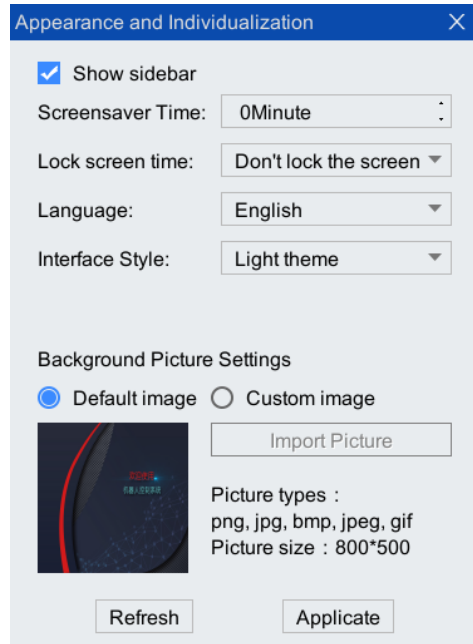

Figure 8-29 "Appearance and Invididualization" setting interface
Step1. On the main interface of the teach pendant, click "System > Appearance and Personalization" option to enter the "Appearance and Personalization" setting interface as shown in Figure 8-29, screen saver time, lock screen time, language, The interface style and background picture can be set here (see Table 8-7 for each item description).